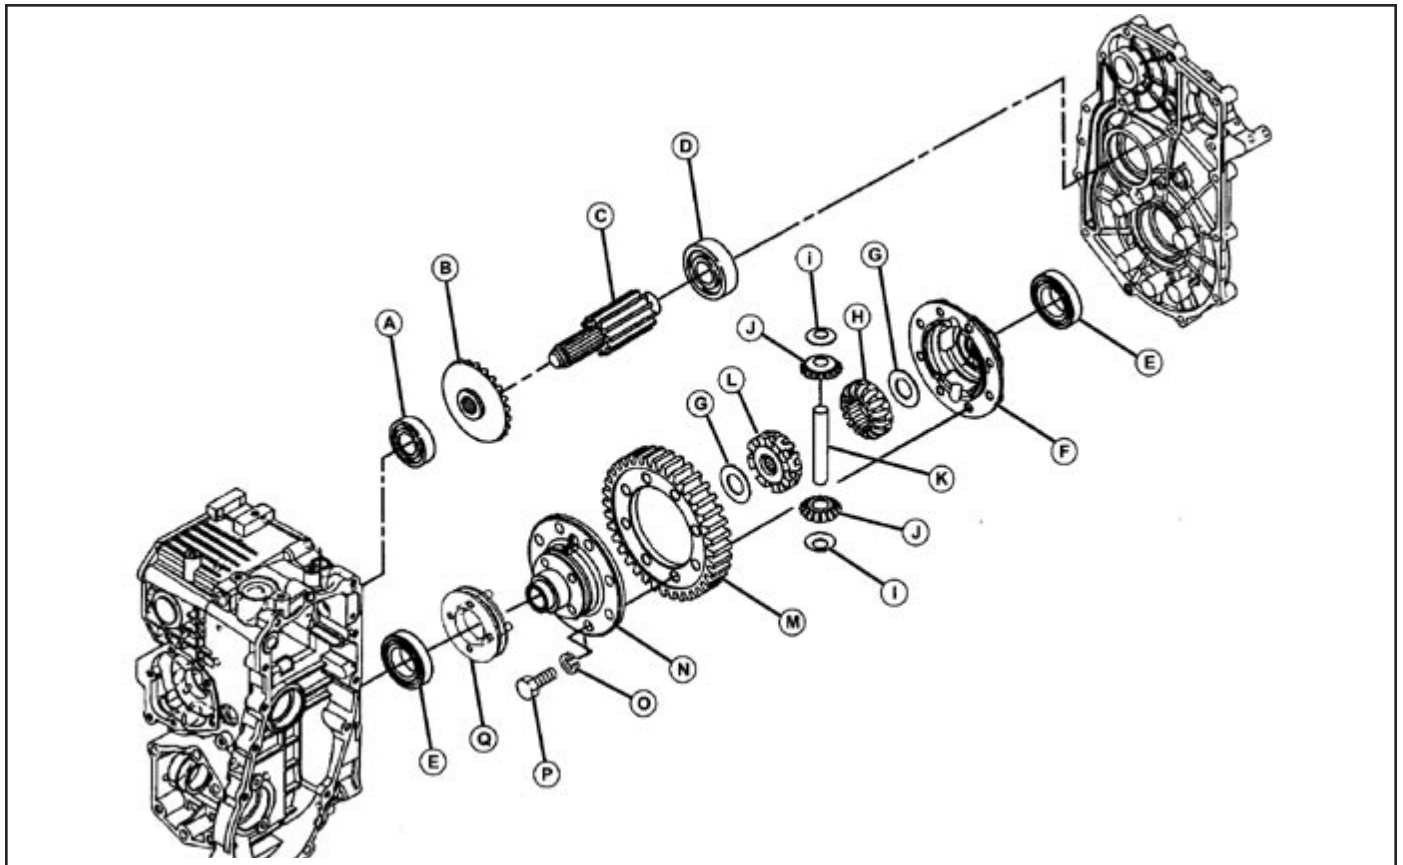

Fig. 40, Differential (4WD) Disassembly
1. Use a puller to remove ball bearings (E) from differential holders (F and N). (Fig. 40)
6. Check differential holders (F and N) and differential pinion shaft (K) for wear, cracks or damage. (Fig. 40)
7. Inspect final gear (M) for worn or damaged teeth.